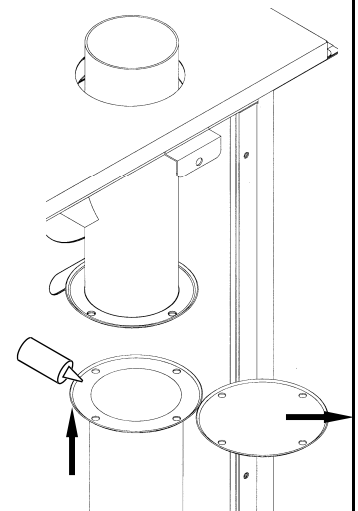
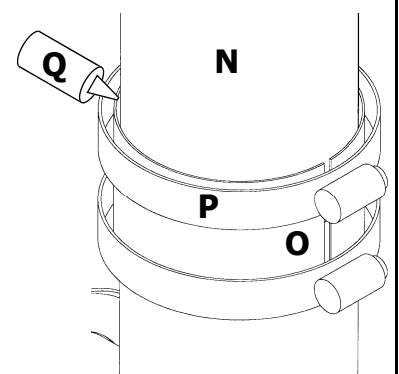

Figure 7
Figure 8
- Remove legs / feet from top unit and place onto bottom unit (on stacking assembly) secure using 2 screws (K) in each corner of the unit (at front and back down from the sides).
- Remove the RH double stack side (I).
- Secure vent extension (N) with 3 screws (screw closest to oven is inaccessible), using sealant provided (Q) to ensure sealed connection. See Figure 7.
- Refit the RH double stack side (I).
- Place connection sleeve (O) over join in vent using plenty of sealant (Q) between vent and sleeve, and secure using hose clamps (P). See Figure 8.